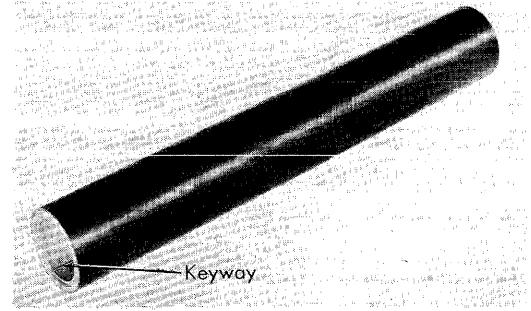

FIGURE 78. TUBULAR PLATEN SECTOR
2. The one-piece tubular-type platen shown in Figure 78.